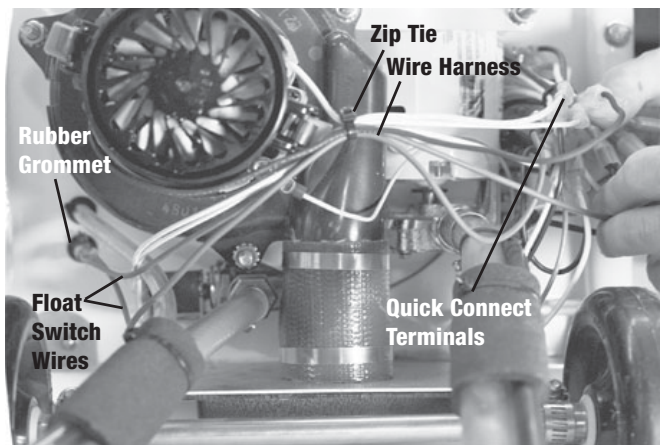

Figure 11
3. Locate the float switch's two electric wires and disconnect them at their quick-connect terminals (fig. 11).
4. Carefully cut zip-ties from wire harness (fig. 11).